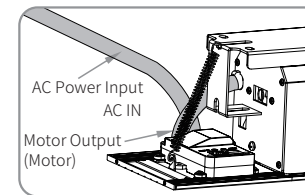

Figure 10
- Connect the screen's power. Plug the motor cable from the left side into the "Motor" port on the left end cover assembly. Connect the included power cord to the "ACIN" port. Ensure secure connections, then plug the power cord into an AC outlet (Figures 10–12).